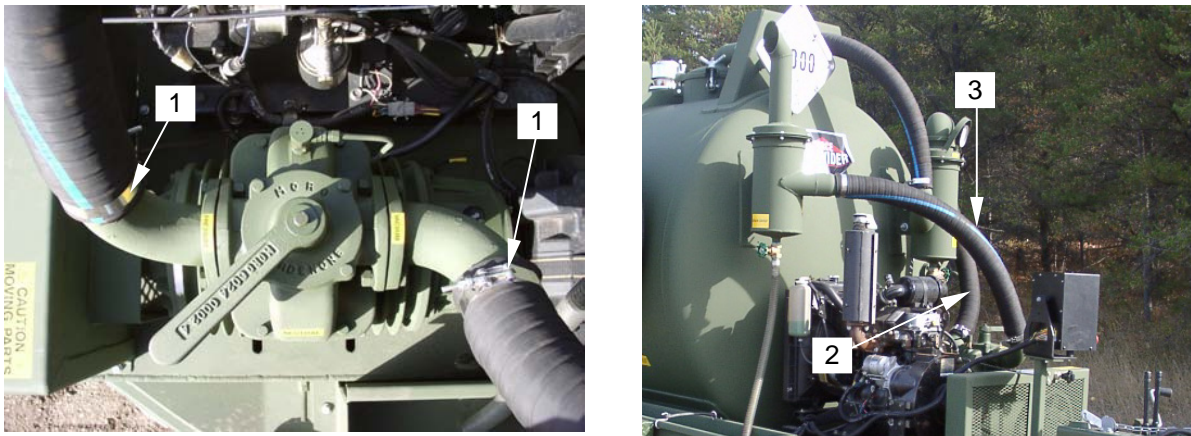

Figure 12. Installing Air Hoses
34. Place air hoses onto vacuum pump ports (**figure 12, item 1**) and tighten hose clamps on vacuum pump hose (**figure 12, item 2**) and breather hose (**figure 12, item 3**).